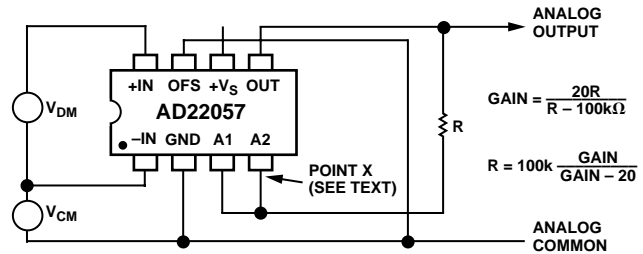
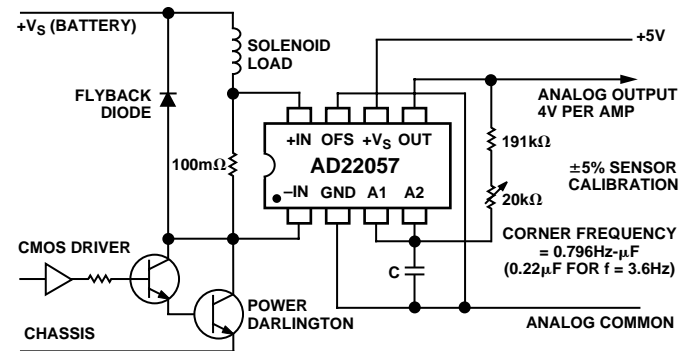
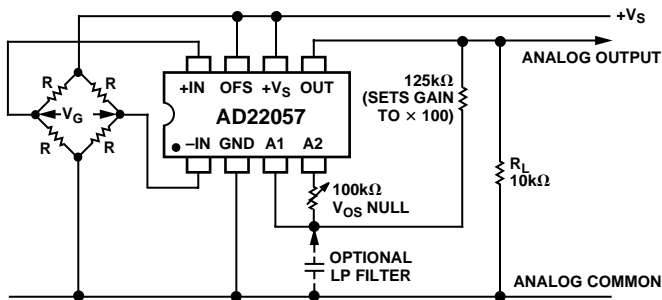

Figure 5. Achieving Gains Greater Than  $\times 20$
Figure 10. Current Sensor Interface. Gain Is ×40, Single-Pole Low-Pass Filtering
Figure 12. Typical Connections for a Strain Gage Interface Using the Offset Feature
**Increasing the Gain.** The gain can be raised by connecting a resistor from the output of the buffer amplifier (Pin 5) to its noninverting input (Pin 4) as shown in Figure 5. The gain is now multiplied by the factor  $R/(R-100\text{k})$ ; for example, it is doubled for  $R = 200 \text{ k}\Omega$ . Overall gains of up to  $\times 160$  ( $R = 114 \text{ k}\Omega$ ) are readily achievable in this way. Note, however, that the accuracy of the gain becomes critically dependent on resistor value at high gains. Also, the effective input offset voltage at Pins 1 and 8 (about six times the actual offset of A1) limits the part's use in very high gain, dc-coupled applications. The gain may be trimmed by using a fixed and variable resistor in series (see, for example, Figure 10).
Once again, a small offset voltage will arise from an imbalance in source resistances and the finite bias currents inherently present at the input of A2. In most applications this additional offset error (about  $130 \mu\text{V}$  at  $\times 40$ ) will be comparable with the specified offset range and will therefore introduce negligible skew. It may, however, be essentially eliminated by the addition of a resistor in series with the parallel sum of R and  $100 \text{ k}\Omega$  (i.e., at "Point X" in Figure 5) so the total series resistance is maintained at  $100 \text{ k}\Omega$ . For example, at a gain of  $\times 30$ , when  $R = 300 \text{ k}\Omega$  and the parallel sum of R and  $100 \text{ k}\Omega$  is  $75 \text{ k}\Omega$ , the padding resistor should be  $25 \text{ k}\Omega$ . A  $50 \text{ k}\Omega$  pot would provide an offset range of about  $\pm 2.25 \text{ mV}$  referred to the output, or  $\pm 75 \mu\text{V}$  referred to the attenuator input. A specific example is shown in Figure 12.
If the gain is raised using a resistor, as shown in Figure 5, the corner frequency is lowered by the same factor as the gain is raised. Thus, using a resistor of 200 kΩ (for which the gain would be doubled) the corner frequency is now 0.796 Hz-μF, (0.039 μF for a 20 Hz corner).
A typical automotive application making use of the large common-mode range is shown in Figure 10.
The AD22057 can be used to interface a strain gage to a subsequent process where only a single supply voltage is available. In this application, the midscale offset feature is valuable, since the output of the bridge may have either polarity. Figure 12 shows typical connections.
An ac excitation of up to  $\pm 2$  V can also be used because the common-mode range of the AD22057 extends to  $-1$  V. Assuming a full-scale bridge output ( $V_G$ ) of  $\pm 10$  mV, a gain of  $\times 100$  might be used to provide an output of  $\pm 1$  V (a full-scale range of +1.5 V to +3.5 V). This gain is achieved using the method discussed in connection with Figure 5. Note that the gain-setting resistor does not affect the accuracy of the midscale offset. (However, if the gain were lowered, using a resistor to ground, this offset would no longer be accurate.) A  $V_{OS}$  nulling pot is included for illustrative purposes. One-, two- and three-pole filtering can also be implemented, as discussed in the Low-Pass Filtering section.
A unique method of feedback around A1, provided by R9 and R7, sets the closed-loop gain of the preamplifier to  $\times 10$  (from the input pins). The feedback network is balanced by the inclusion of R6 and R8. The small value of R7 results in a more practical value for R9 (which would have to be 2 M $\Omega$  if the feedback were taken directly to the inputs of A1). R8 is not directly connected to ground, but to an optional voltage of one half that is applied to Pin 7 (OFS). It is trimmed to within close tolerances through R10 and R11. This allows the output of A1 to be offset to midscale, typically  $+V_S/2$ , by tying Pins 6 and 7 together. (For an example of the use of this feature, see Figure 12.) The gain is adjusted by the single resistor R5, which acts only on the differential signal. More importantly, it also results in much less feed forward of the common-mode signal to the output of A1, which, being a single-supply circuit, has no means of pulling this output down toward ground in those circumstances where the common-mode input is very positive while the net differential signal is small. (The output of A1 is the collector of a PNP transistor whose emitter is tied to  $+V_S$ .) R16 is specifically included to alleviate this problem.